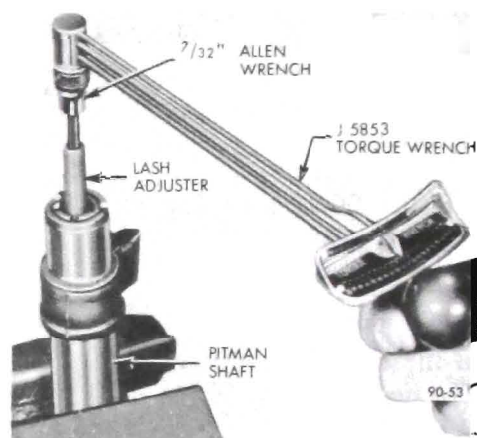

Figure 90-64 Checking Torque on Lash Adjuster
3. Check the torque on the lash adjuster. See Figure 90-64. If torque exceeds 15 lb. in., pitman shaft assembly should be replaced.